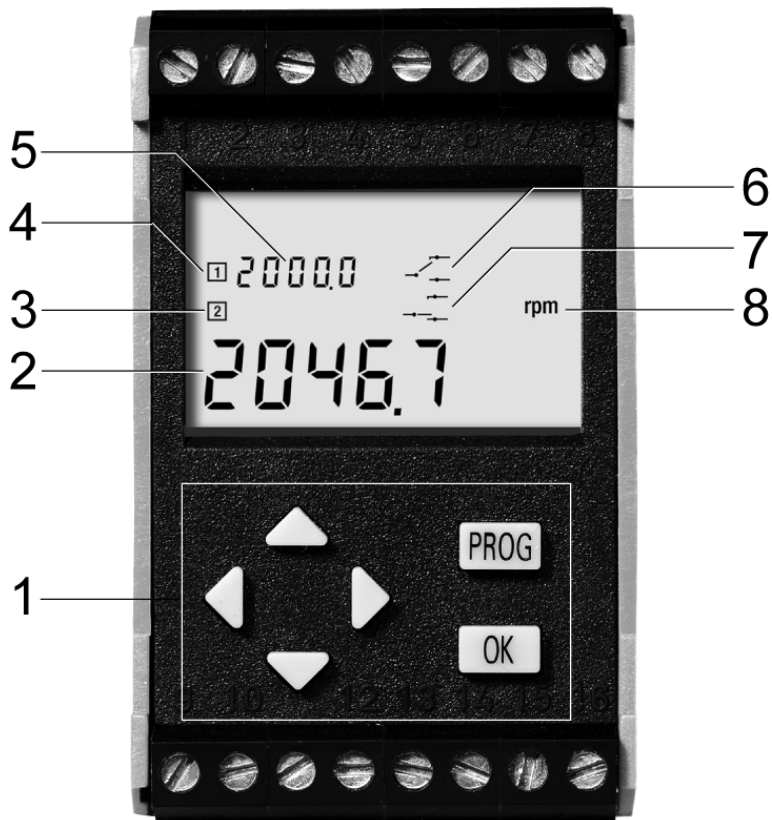

Figure 2 Front face of the device
The six key control panel (Figure 2, item 1)
The display (Figure 2, items 2 to 8)